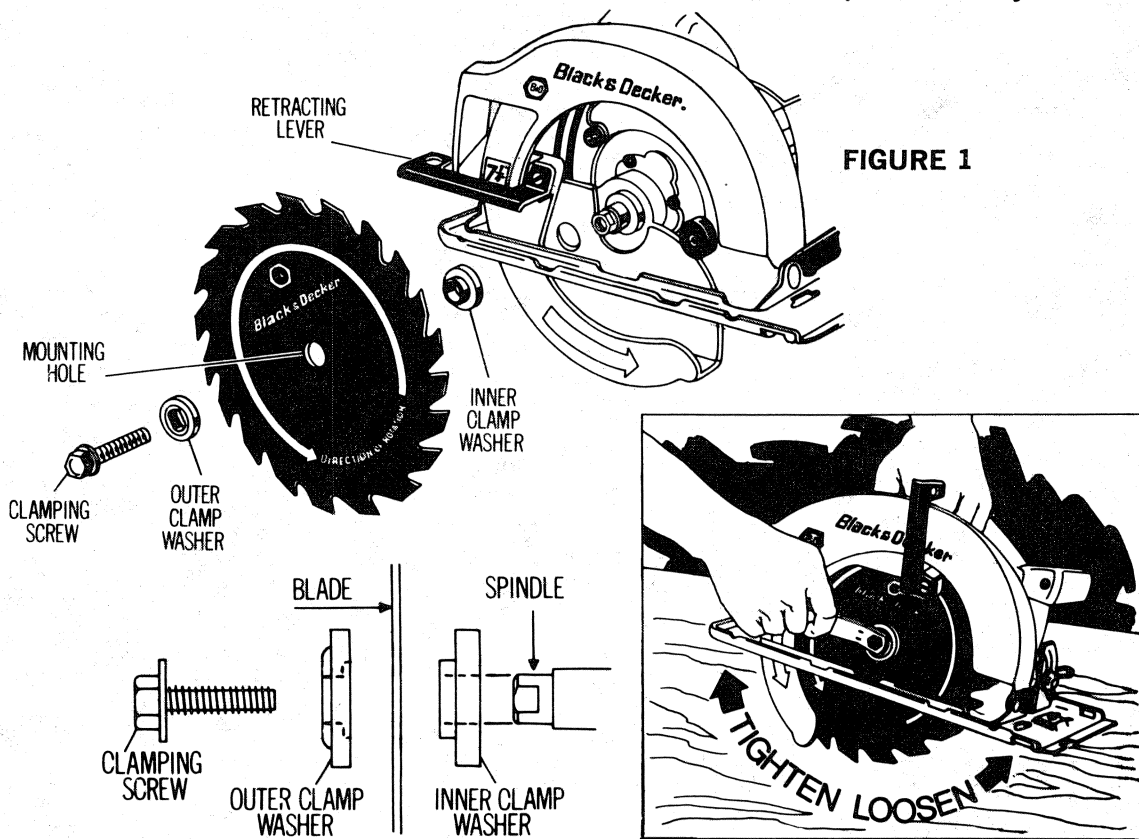

FIGURE 2
—b. ON SAWS WITH BLADE ATTACHED. Using the retracting lever, retract the lower blade guard and place the Saw on a piece of scrap lumber as shown in Figure 2. Press down on the Saw so that the blade teeth dig slightly into the lumber and prevent the blade from turning. Then, with the blade wrench provided, turn the clamping screw counter-clockwise and remove the screw and outer clamp washer. Disengage the blade teeth from the lumber, and with the lower blade guard still retracted, lift off the blade.
3. To attach the blade: Place inner clamp washer on spindle if previously removed. Retract lower blade guard and place blade over inner clamp washer with printed side of blade out (teeth at bottom of blade pointing forward). Fit outer clamp washer onto spindle . . . “flats” on the outer washer must mesh with the “flats” on the spindle. Thread on clamping screw firmly by hand to hold washers in position. Place Saw on piece of scrap lumber as shown in Figure 2 and press down on the Saw so that blade teeth dig slightly into wood and prevent the blade from turning. Tighten clamping screw (clockwise) firmly with the blade wrench.